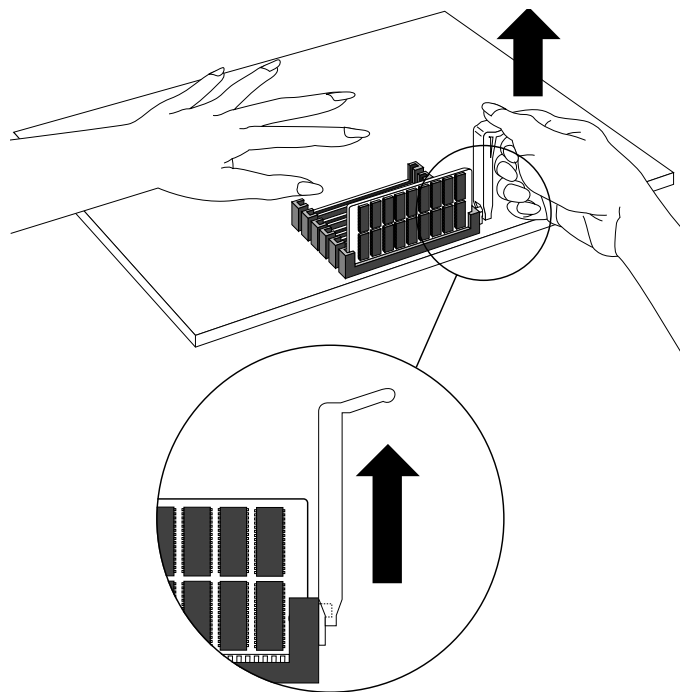

Figure 3-22 Removing the SIMM Using the SIMM Removal Tool
- Slip the notched edge of the removal tool under the white lever on the right side of the SIMM socket, as shown in Figure 3-22.
1. Orient yourself to the CPU board so the memory sockets are closest to you, as shown in Figure 3-22.